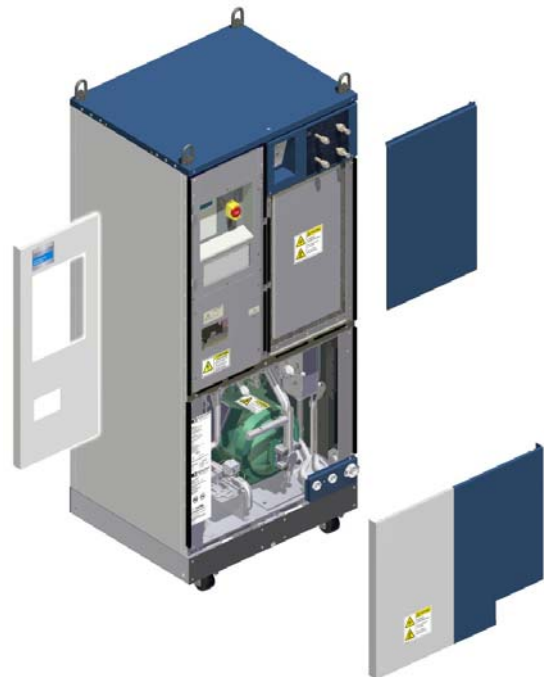
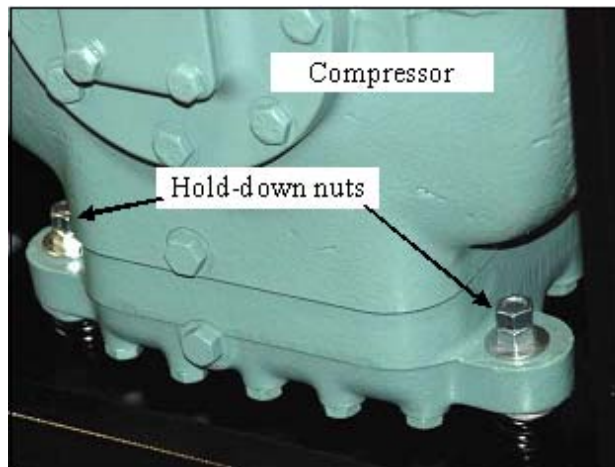

Figure 4-3: Polycold Cryochiller with panels removed showing compressor location
Figure 4-5: Hold-down Nuts
4. Locate the compressor in the bottom of the refrigeration unit. See Figure 4-3 and Figure 4-5.
5. Locate the four hold-down nut locations on the compressor. See Figure 4-5.